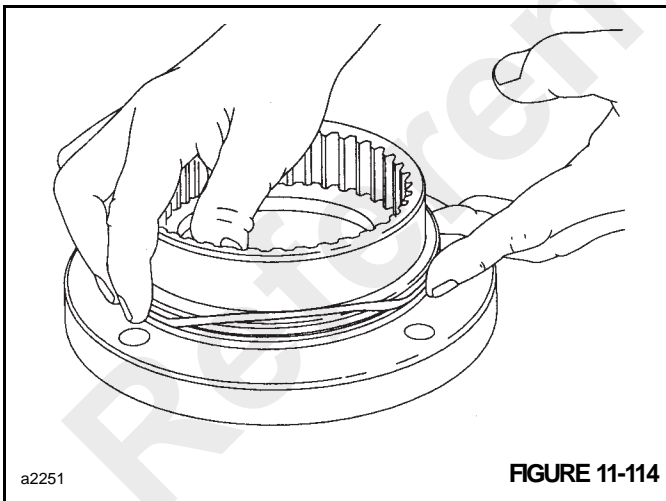

FIGURE 11-114
1. Begin assembly by placing the motor support on the workbench with motor mounting surface down. Install new O-ring and brake-up ring (Figure 11-114).